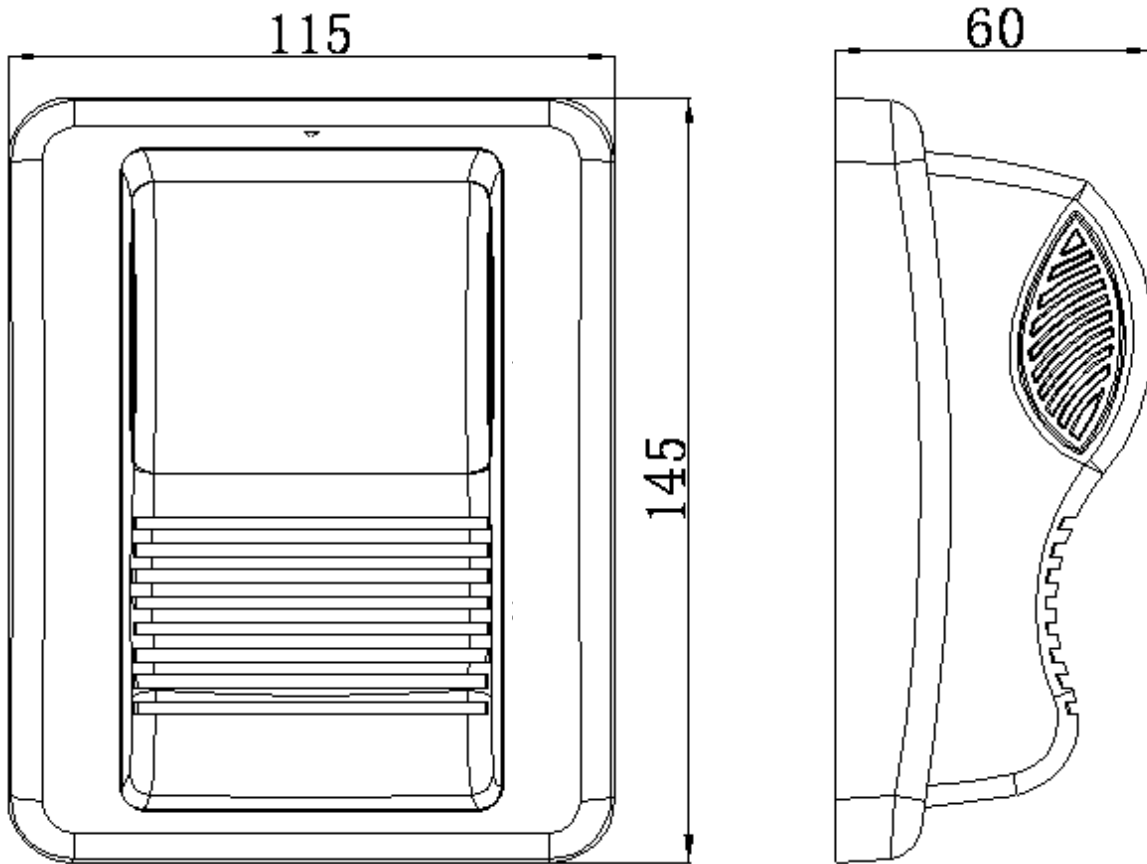

Fig.1 Appearance & Dimension
- 4.1 The appearance & dimension are shown in Fig 1.